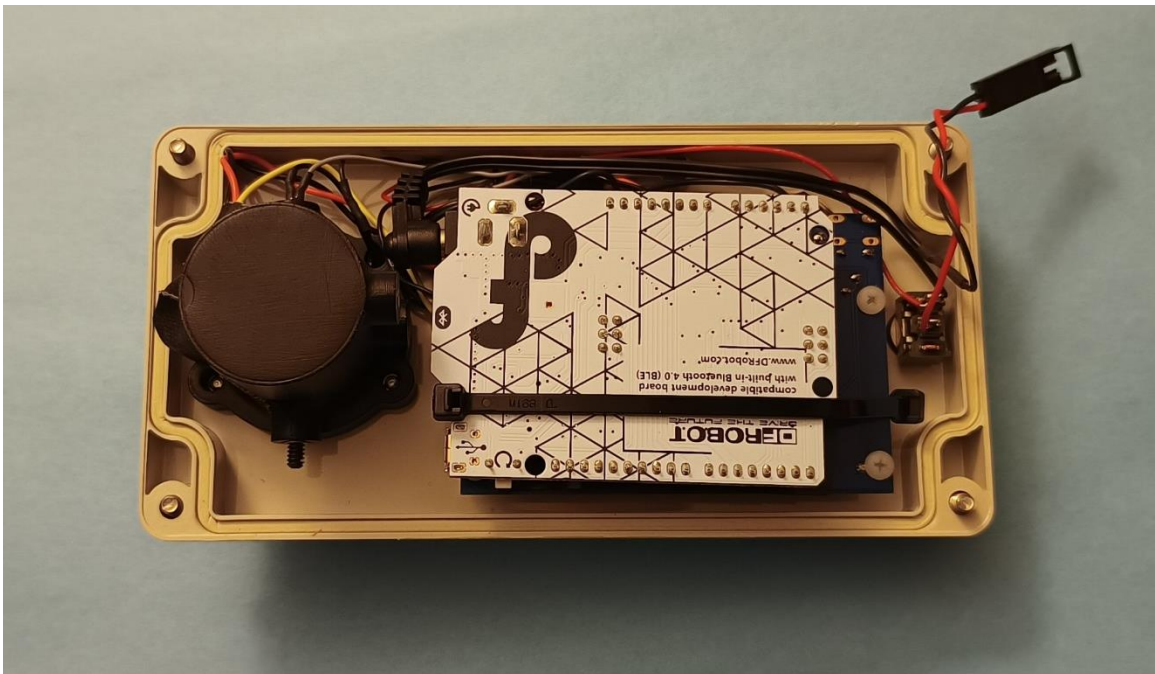

Figure 12. Full Assembled Case Lid With Sample Well, LCD Shield, and Bluno
6. Tuck all loose wires in between the circuit boards and the edge of the case lid (Figure 12). Secure with zip ties as needed.